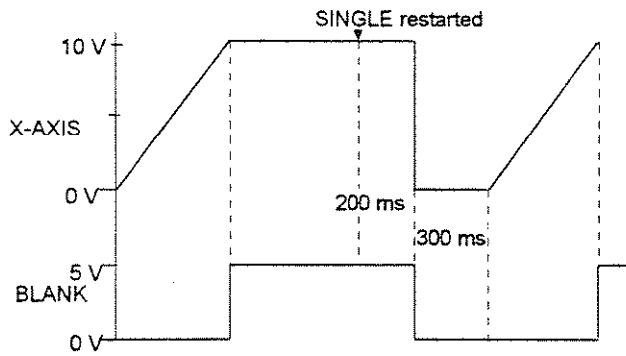

Fig. 2-53 Signal example sweep: MODE = SINGLE, BLANK TIME = LONG
- SINGLE** Single run from the starting point to the stop point. If SINGLE is selected, the run is not started yet. Function EXECUTE SINGLE SWEEP → to be executed, which can be used to start the run, is displayed below the MODE line (cf. Fig. 2-53).